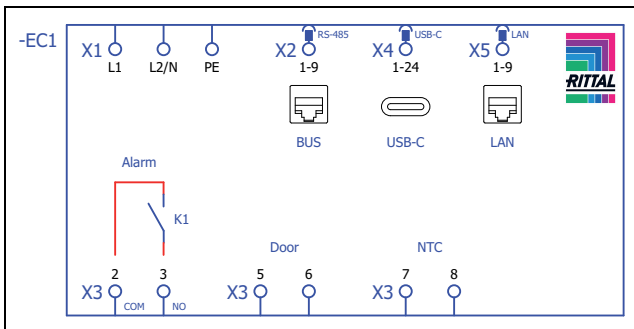
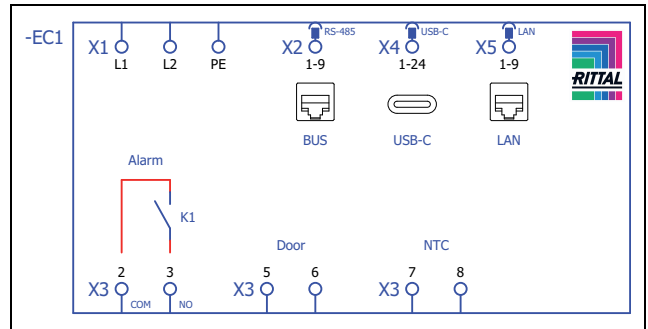

Fig. 45: Circuit diagram SK 3178800, SK 3178801, SK 3179800, SK 3179801, SK 3180800, SK 3184800
Fig. 46: Circuit diagram SK 3184840
- Remove the mains connector from the dispatch bag and connect to the mains as shown on the connection diagram (fig. 45 or fig. 46).